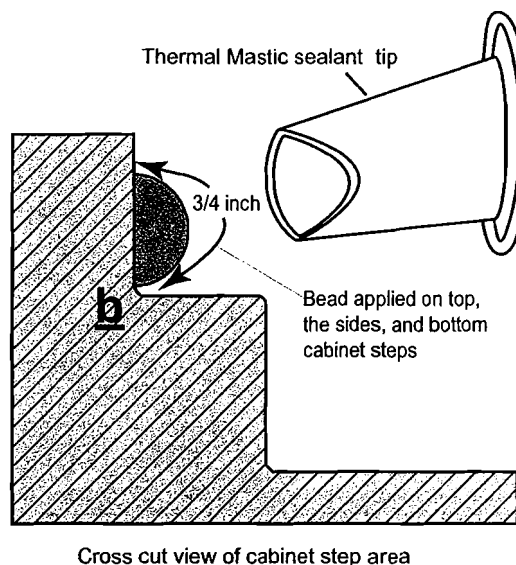

Figure 13. Thermal Mastic application to cabinet step.
Thermal Mastic sealant is to be applied to the cabinet and cooling system as outlined in the following steps and as shown in Figure 13, **a** and **b**. Failure to apply the sealant as outlined will result in poor cooling performance.
4. Tape the fin assembly as shown in Figure 13, **a**. Use two inch wide adhesive backed HVAC aluminum tape.
5. Apply 3/4 inch wide x 1/2 inch thick bead of Thermal Mastic sealant to the cabinet step as shown in Figure 13, **a** and Figure 13, **b**.